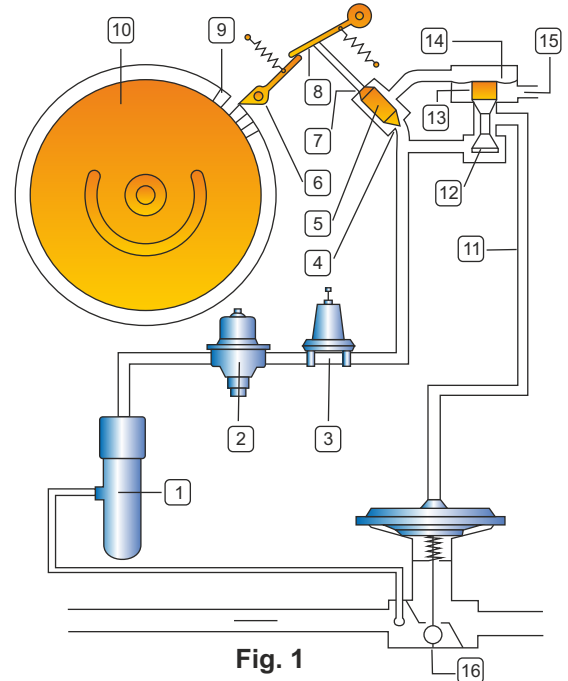

Fig. 1
Assume that timing clip (9) is moved out of the path of the trigger, as shown in Figure 1. When the point of the trigger (6) falls into the slot left by the displaced clip, the other end of the trigger exerts a force on the leaf spring (8) This in turn allows the primary 3-way valve (5) to open the supply port (4) and close the exhaust port (7). The supply gas then flows through the primary 3-way valve, loading the diaphragm (14) of the secondary 3-way valve. The force exerted on this diaphragm closes the exhaust valve (13) and opens the supply valve (12) to load the diaphragm of the motor valve (16).